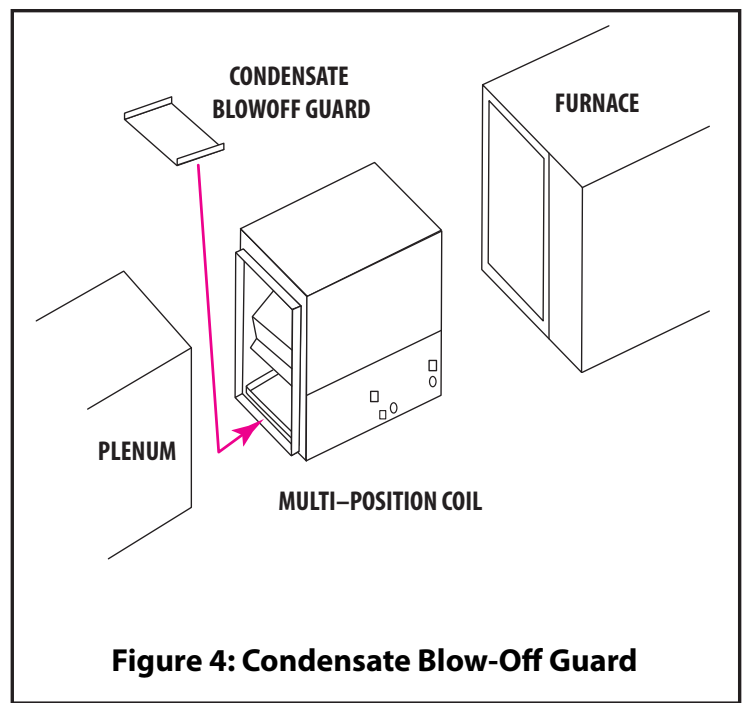

Figure 4: Condensate Blow-Off Guard
- On some multi-position coils where the air enters the open end of the "A" coil and the apex of the coil is downstream from the air inlet, a condensate blow-off guard is provided for horizontal applications and must be attached to the horizontal drain pan to catch any condensate blow off (See Figure 4)